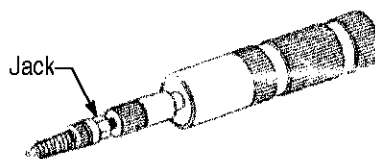

Figure 3
2. While holding the collet of the torque tool, turn the handle *clockwise* until it stops. Thread the jack into the tool until it bottoms inside the tool. Hand-tighten the jack. Refer to Figure 3.